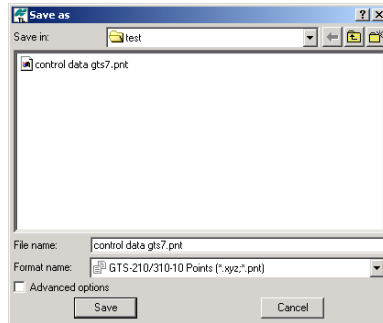

Figure B-4. Save File for Total Stations
3. Enter a *File name* and click **Save** (Figure B-4).